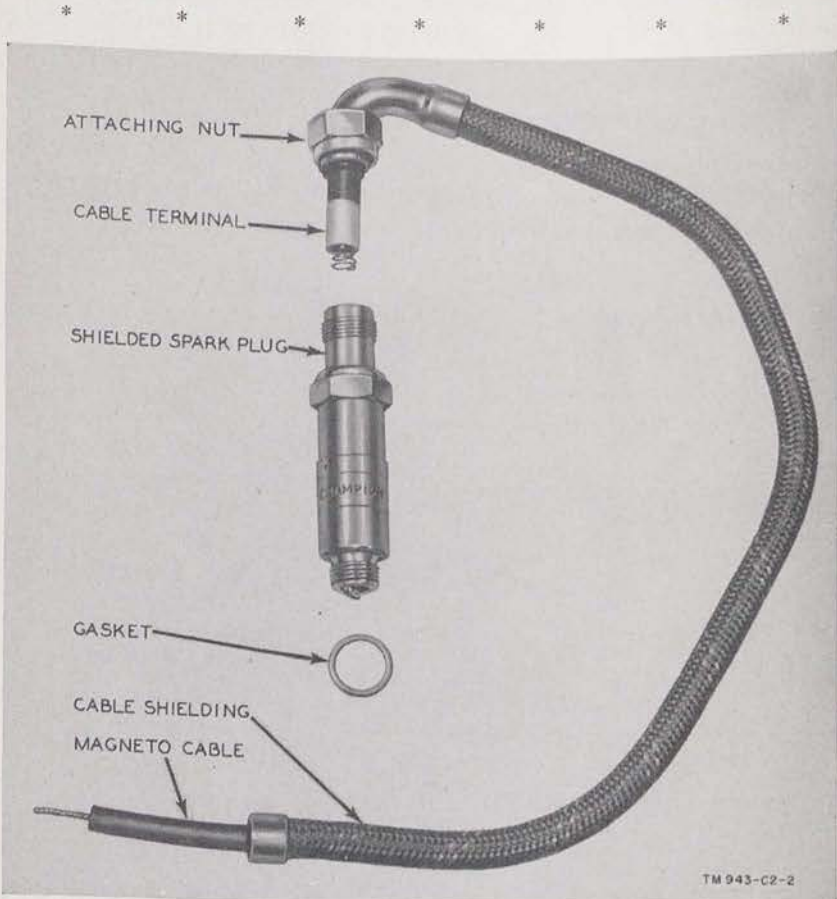

Figure 23.1 (Added). Engine GE-12-G, spark plug and shielding assembly.
c.1 (Added). ENGINE GE-12-G, SPARK PLUG AND IGNITION SHIELDING (fig. 23.1). Unscrew the ignition cable shielding nut from